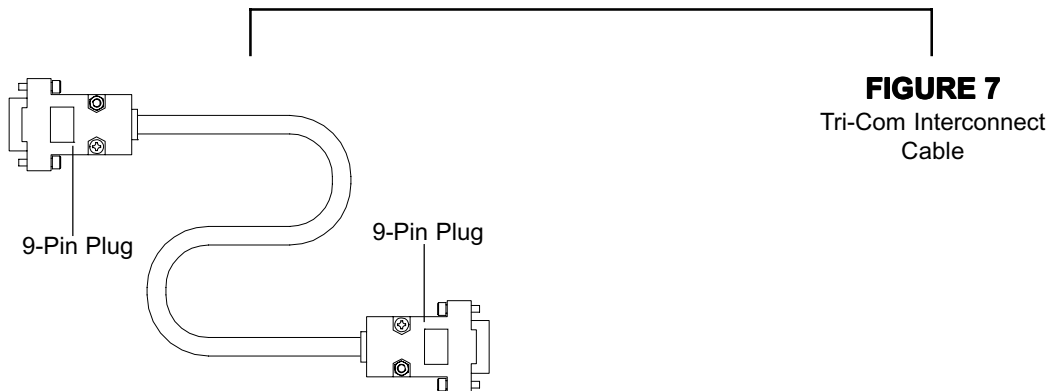
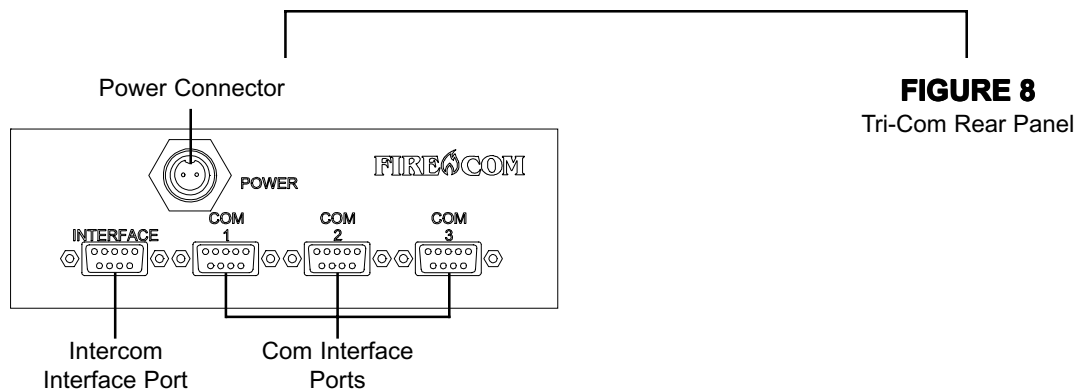

FIGURE 7
FIGURE 8
The connection of the Tri-Com to the Intercom is made via the Tri-Com Interconnect Cable (Figure 7).
8. Connect one of the 9-pin plugs (Figure 7) to the Intercom Interface Port on the rear of the Tri-Com (Figure 8).
9. Connect the other 9-pin plug (Figure 7) to the Radio Interface Port on the back of the Intercom.